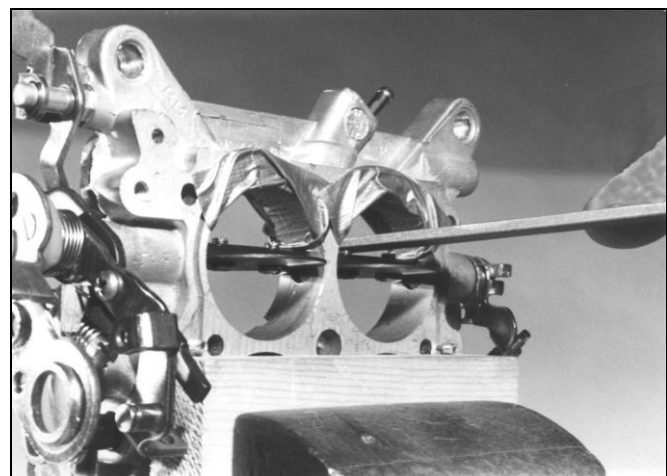

FIGURE 6
5. Using a fine/medium tooth file, begin by filing the end of the throttle plate screws on the primary side using firm even strokes. File away enough of each screw so that the ends are flush with the throttle shaft. Remove the throttle body from the vise and turn over. Now file the throttle plate screws on the secondary side. See Figures 6 and 7.